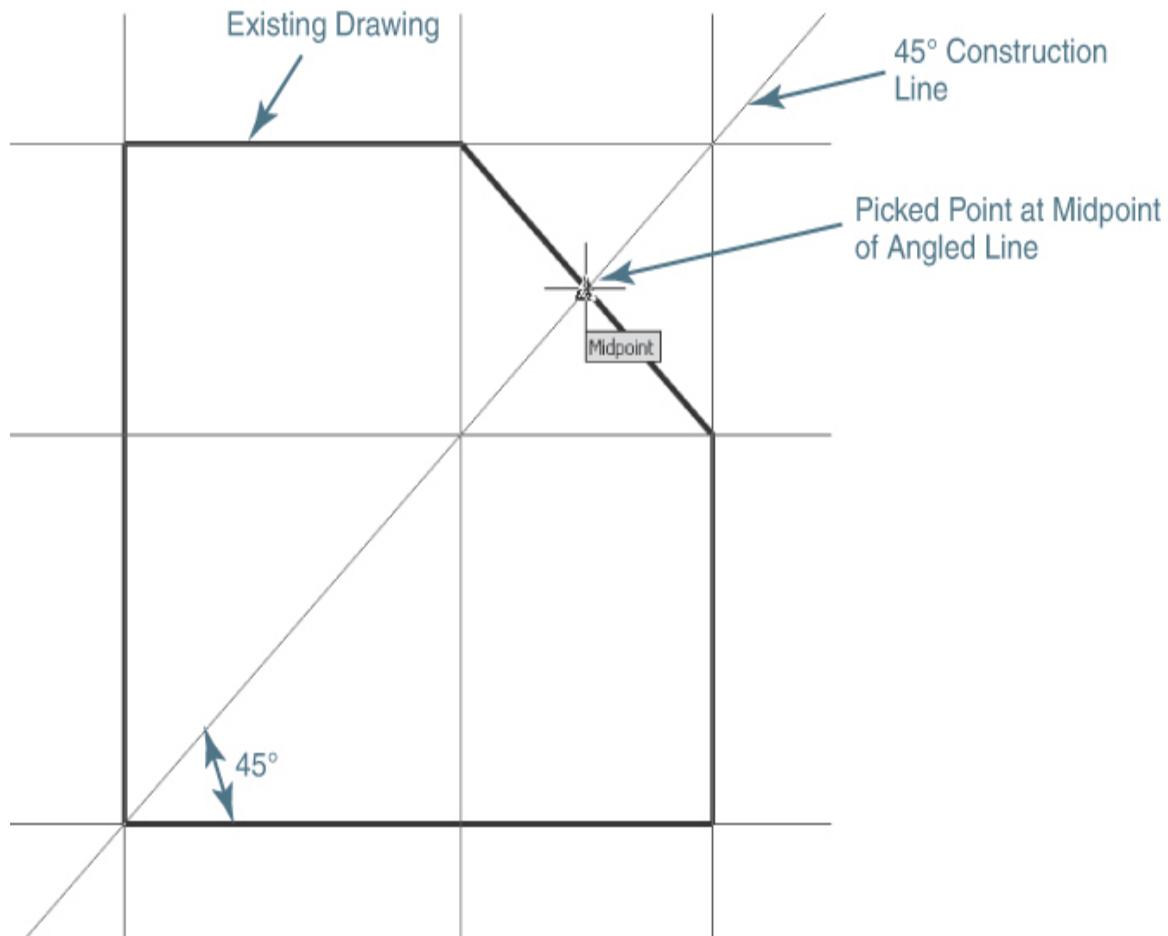

Figure 5-65
To create a construction line at an angle, start the **XLINE** command and select the **Angle** option. By default, AutoCAD prompts you for an angle. Enter the desired angle and locate the construction line by selecting a point. Figure 5-65 shows a 45° construction line located at the **Midpoint** object snap of an angled line.
Using the **Reference** option allows you to select a line object and use its existing angle as a base angle. You can then enter the angle relative to the selected line object. For instance, to create the 45° construction line shown in Figure 5-65 using the **Reference** option, you would first select the existing angled line and then input the desired angle relative to the selected line. Inputting 90° creates a construction line perpendicular to the angled line, which just so happens to also be 45° from the X-axis.
- 6 Select the **Midpoint** object snap of the angled line as shown in Figure 5-65.